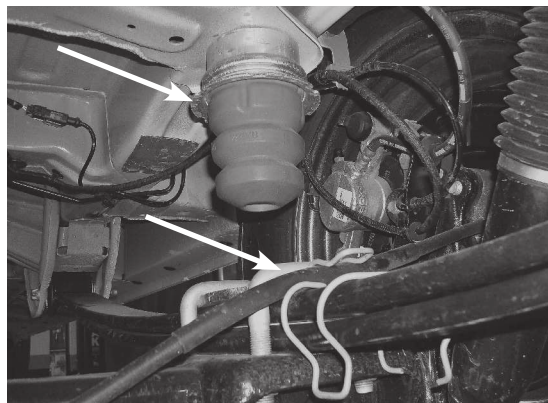

fig. D.3
2. Remove the jounce bumper assembly from the frame using a large spanner wrench (Fig. D.3).
3. Remove the rear spring clips that hold the emergency brake cables onto the spring, rear of the axle (Fig. D.3).